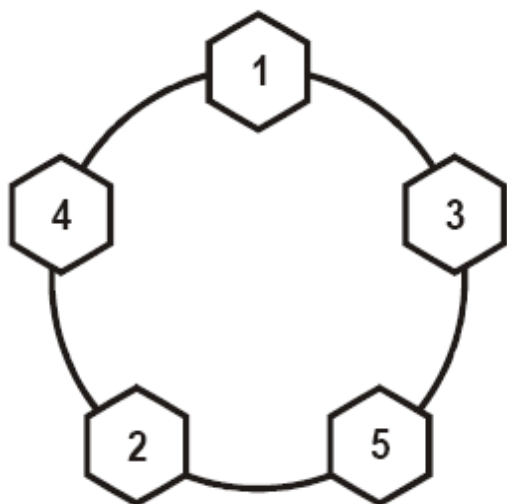

Figure 3-3 Wheel Nut Tightening Sequence
- Refer to Figure 3-3 for correct wheel nut tightening sequence.